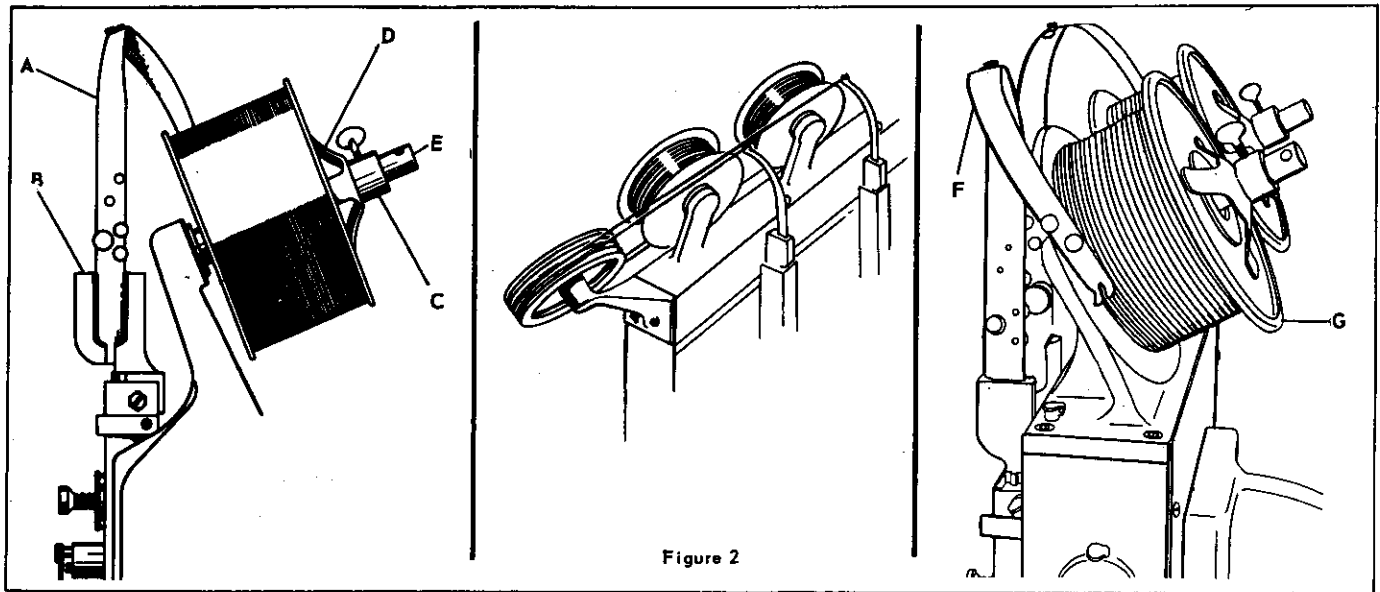

Figure 2
**Install Wire Guide Springs and Coil Holder: (Fig. 2)**
2. Thread the wire through the slot at the end of the wire guide spring (Index B), through the wire guides (Index C), through the upper wire straightener (Index D), through the lower wire straightener (Index E), and between the tension pawl and tension roll (Index F). On multiple-head stitchers, except the Model 500\*, the wire should first be looped around the grooved sheave, using the lowest groove first, before starting to thread it on the far right-hand head in the manner described above (See Figure 2).